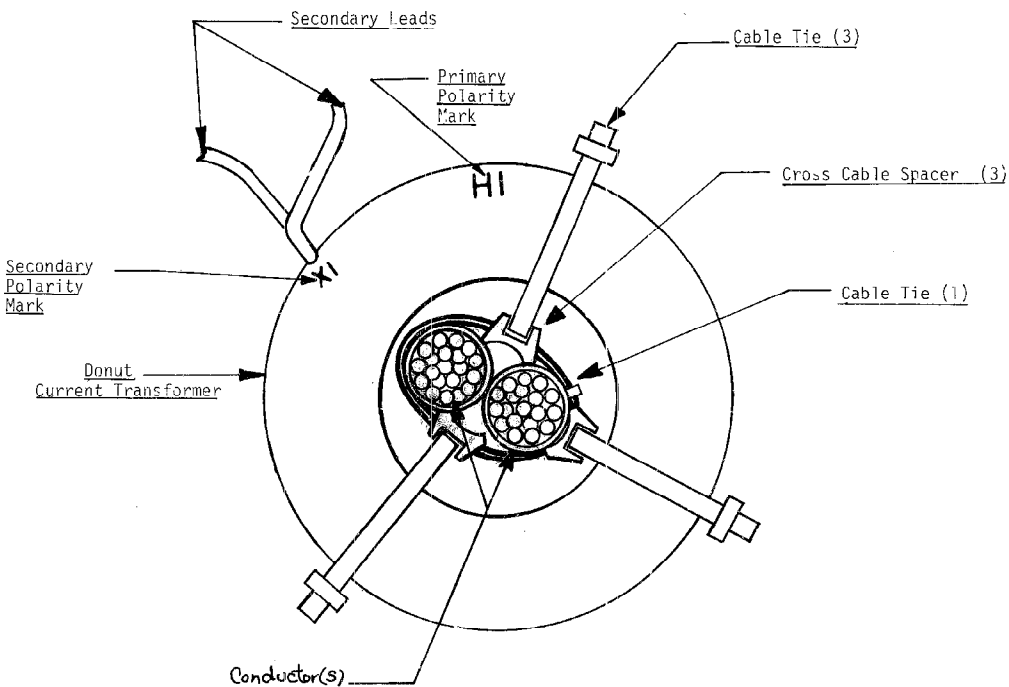

FIGURE 3
2. With cable tie, attach three cross cable spacers to the conductor(s) as shown in Fig. 3. Tighten cable tie and trim excess.